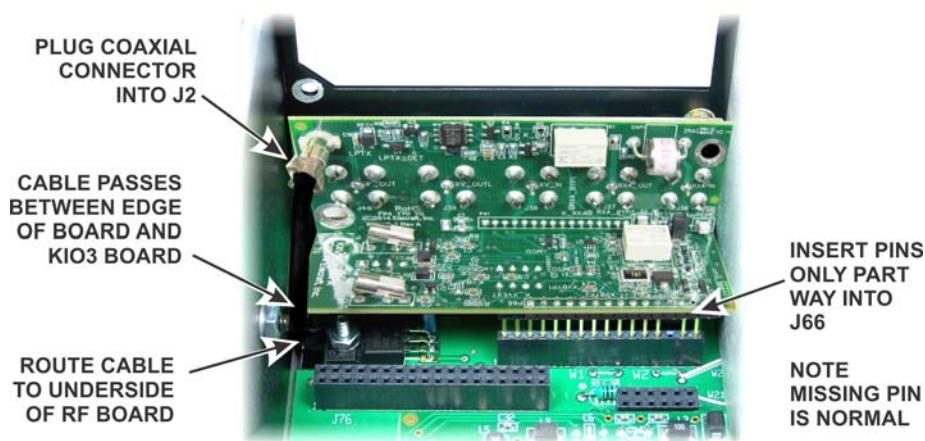

Figure 9. Mounting KXV3B Board.
- Fit the TMP coaxial connector onto J87 on the KXV3B board assembly (see Figure 9).
- Thread the square connector on the TMP cable through the gap between Q3 and the side of the RF board, then plug the KXV3B board assembly into J66 on the RF board with the BNC connectors facing out through the rear panel (see Figure 9). The pins will just clear the top of J66 when the BNC connectors are up against the top of the opening in the rear panel.